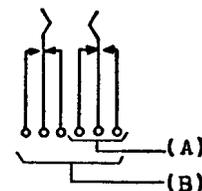

Fig. 5—Illustrating Contact Sequence
- (a) **Fig. 5(A)—Normal Contact Sequence Break-Make Combinations:** Closed contacts shall break before associated open contacts make by—0.005 inch (Readjust—0.006 inch).
- (b) **Fig. 5(B)—Cross Sequence—Break-Make Combination on Ringing Spring Assemblies or When Specified on Circuit Drawing:** All closed contacts operated by a plunger shall break before any open contacts make by—0.005 inch (Readjust—0.006 inch).